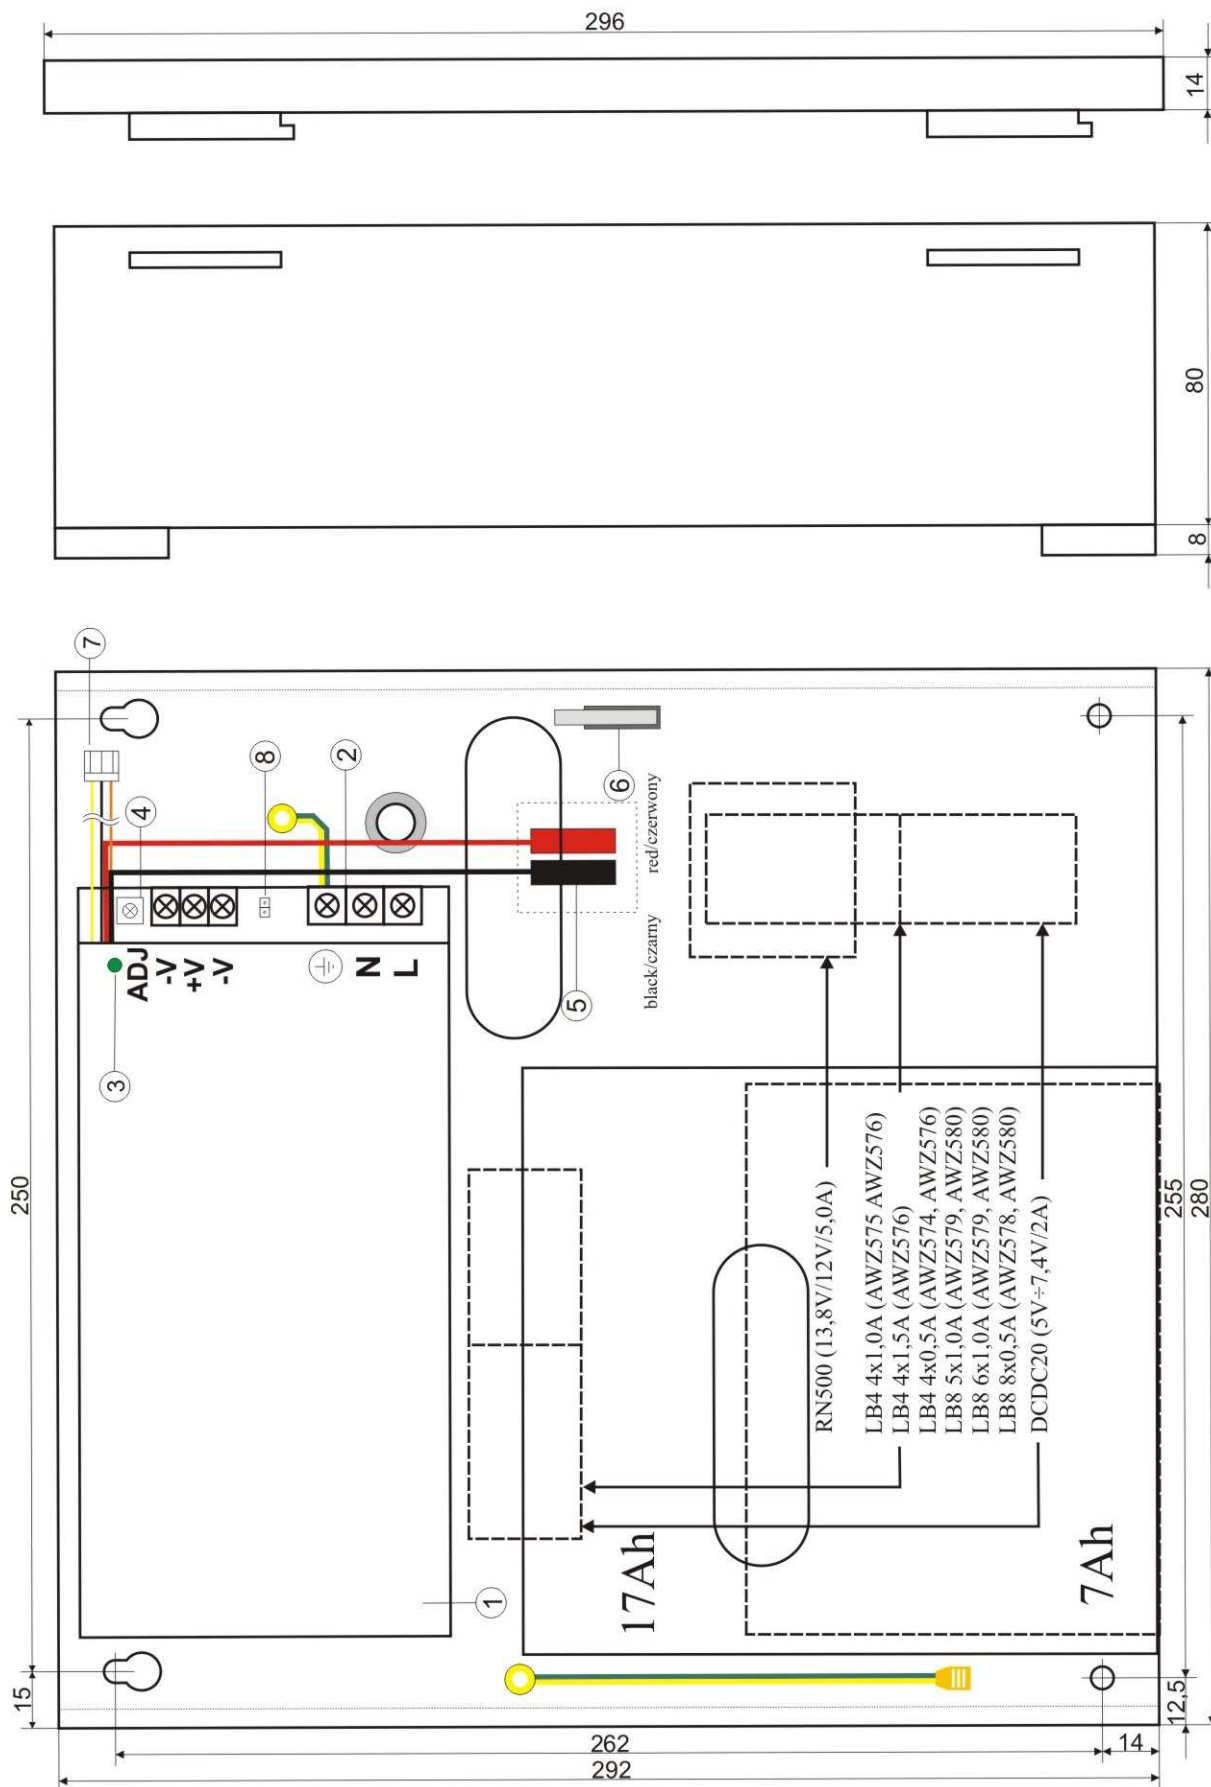

Fig.2. The view of the PSU.
1.3 Description of PSU components and connectors (tab.1, tab.2, fig.2).
Element no. [Fig. 2]	Description
Element [Fig. 2]	Description
Fixation	See figure 2